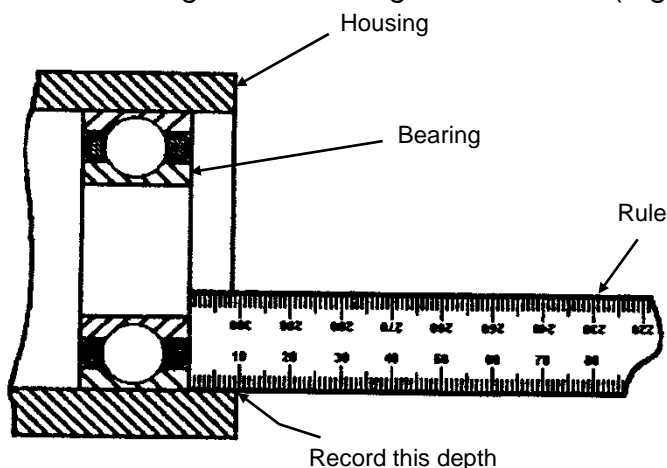

FIG 1.
- B. These notes describe how to handle and replace a bearing with a hammer, a dolly and a punch without causing any damage and while ensuring a long bearing life. (Fig 1)
A. Measure the depth of the bearing in the housing and record it. (Fig 1)